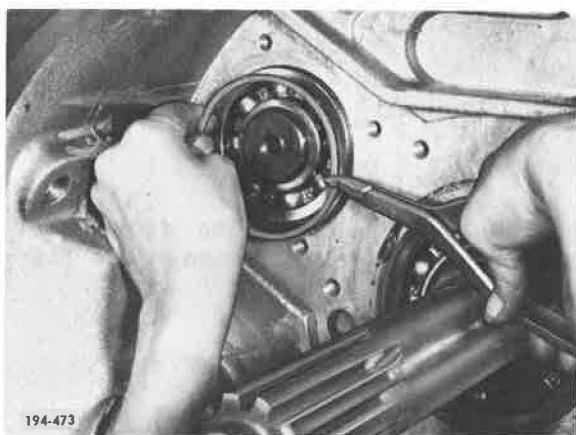

Figure 90. Removing Snap Ring
5. Remove front bearing positioning snap ring, using pliers J-25445 or equivalent. See Figure 90.